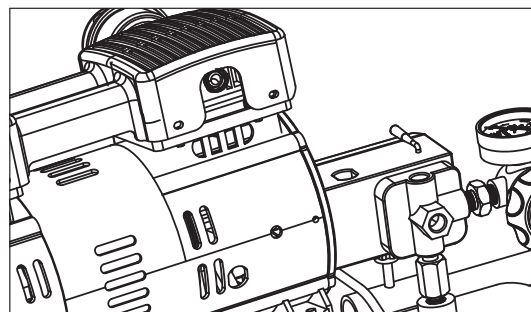

Figure 2
**Pressure Switch - Auto On/Off Switch** - In the "Auto On" position, the compressor shuts off automatically when tank pressure reaches the maximum preset pressure. After air is used from the tank and drops to a preset low level, the pressure switch automatically turns the motor back on. In the "Off" position, the compressor will not operate. This switch should be in the "Off" position when connecting or disconnecting the power cord from the electrical outlet. (Figure 2)
1. If the plug on the electrical cord of the unit is unfamiliar to you or will not fit your particular receptacle, Figure 2 will help you understand why by illustrating the different plugs and the voltages they are to be used with.